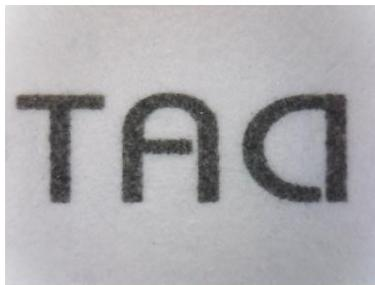

Fig.3-20 Video image do horizontal flip
- ⊕ Horizontal Flip “” : The video image left and right mirror 180 degree flip which is horizontal flip shown in Fig.3-20.